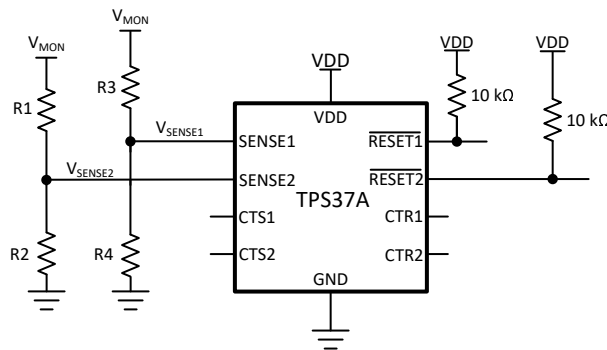

图 10-1. Adjustable Voltage Threshold with External Resistor Dividers
For example, consider a 12 V rail being monitored  $V_{MON}$  for undervoltage (UV) using channel 2 of the TPS37A010122DSKR variant. Using 方程式 7 and shown in 图 10-1,  $R_1$  is the top resistor of the resistor divider that is between  $V_{MON}$  and  $V_{SENSE2}$ ,  $R_2$  is the bottom resistor that is between  $V_{SENSE2}$  and GND,  $V_{MON}$  is the voltage rail that is being monitored and  $V_{SENSE2}$  is the input threshold voltage. The monitored UV threshold, denoted as  $V_{MON-}$ , where the device will assert a reset signal occurs when  $V_{SENSE2} = V_{IT-(UV)}$  or, for this example,  $V_{MON-} = 10.8V$  which is 90% from 12 V. Using 方程式 7 and assuming  $R_2 = 10k\Omega$ ,  $R_1$  can be calculated shown in 方程式 8 where  $I_{R1}$  is represented in 方程式 9: